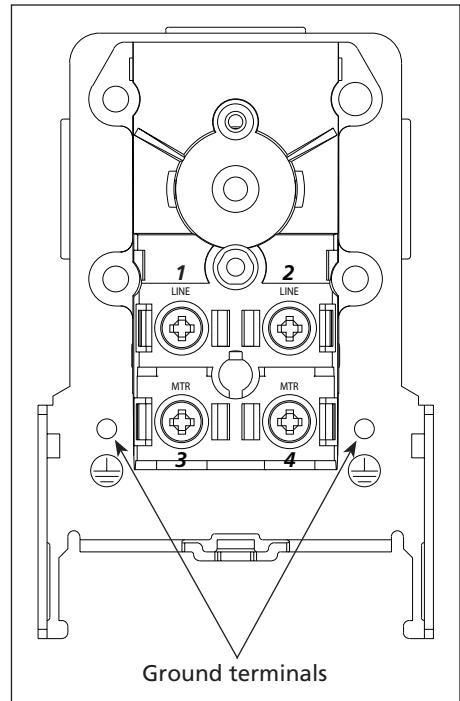

Figure 4
- Position black motor wire underneath screw head #4 (See Figure 4), then tighten screw to secure wire. Position black line wire underneath screw head #2, then tighten screw to secure wire.
to secure wire. Position white motor wire underneath screw head #3, then tighten screw to secure wire (See Figure 4).
- Attach green ground wire from line cord to inside of pressure switch with ground screw provided in kit. Repeat procedure with green ground wire from motor cord. (See Figure 4).